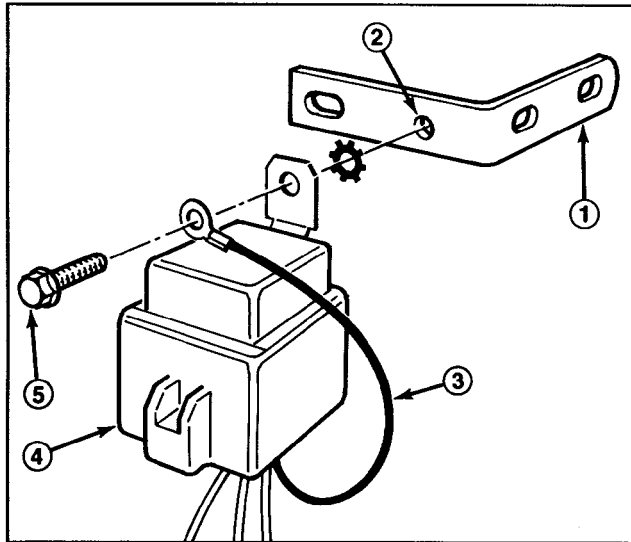

Figure 1
2. Open the hood. Center punch the center of the engine fan mount bracket and drill a 7/32" hole in the bracket (Fig. 1).
3. Slip the black starter relay wire onto the self tapping mounting capscrew and insert the capscrew through the starter relay mount bracket. Install an external star washer to the capscrew and secure the starter relay to the engine fan mount bracket (Fig. 1).